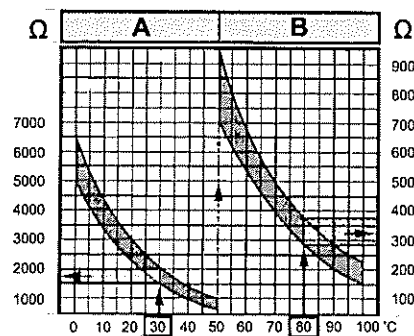

Fig 17 Set-point values
21.10 Referring to the set-point diagram (see Fig 17), area A shows the resistance values for the temperature range 0 through 50 °C; area B shows the resistance values for the temperature range 50 through 100 °C. For example, a readout of 30 °C, corresponds to a resistance of 1500 to 2000 Ω, whereas, a readout of 80 °C, corresponds to a resistance of 275 to 375 Ω.